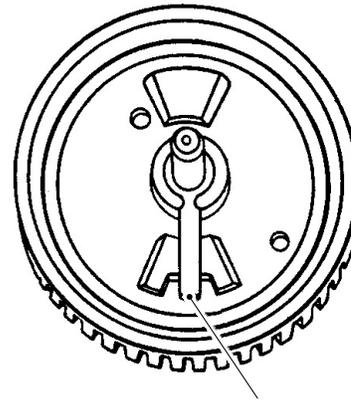

Figure 3.3.9A
2. Inspect the electrode finger for looseness. The electrode must be held securely to the shaft when tested with light finger pressure. A loose condition requires gear replacement. (See Figure 3.3.9A).